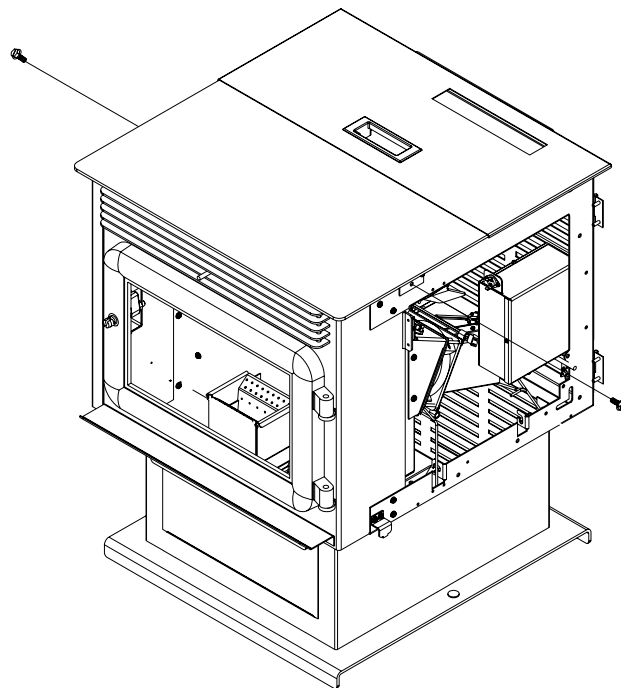

Figure 8
- 2- Secure the top to the stove with the brackets located on each side.(Figure 8)